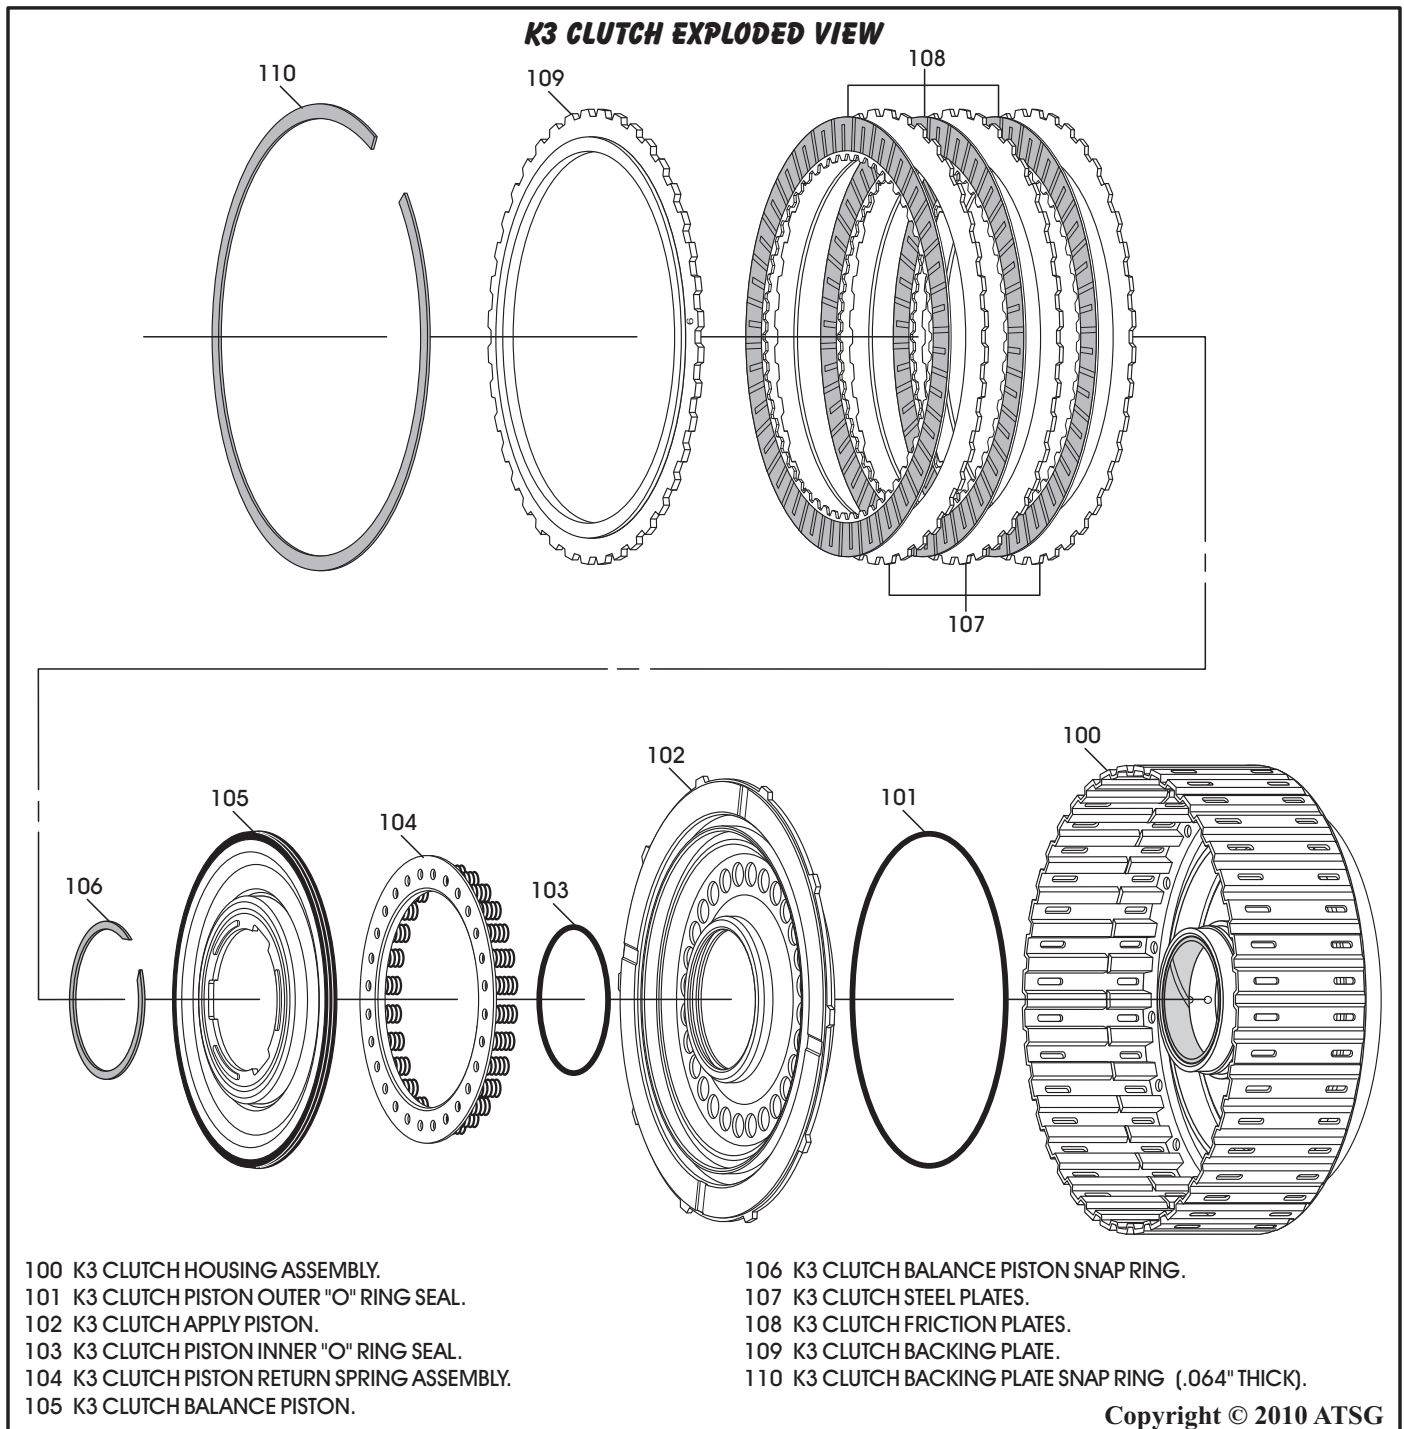

Figure 106
1. Disassemble the K3 clutch housing assembly using Figure 106 as a guide.